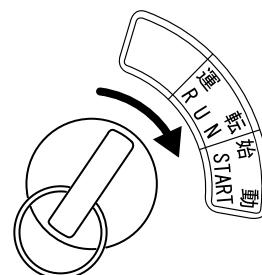

Figure 12. Key Switch
- a. Turn the key to the **"START"** position. After the engine is started, take your hand off the key. (Figure 12).